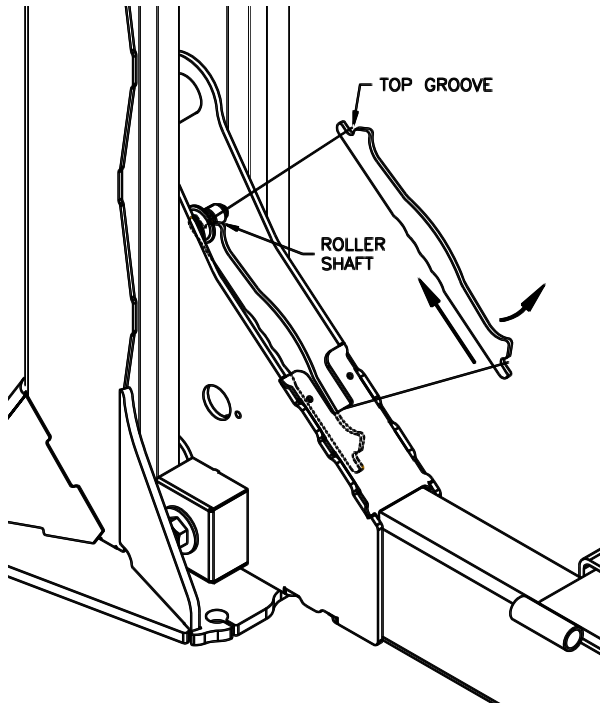

Fig 12 – Slack Cable Latch Disengaging Tool
- 25) Insert stack cable latch disengaging tool inside power side front cross beam and engage the groove at the top end of the tool with the latch roller shaft as shown in Fig 12. Push the slack lock latch back into the column while rotating the bottom of the tool upward and engage the bottom groove of the tool in the cross beam. This will allow the column to be moved into position without resistance from the slack lock.